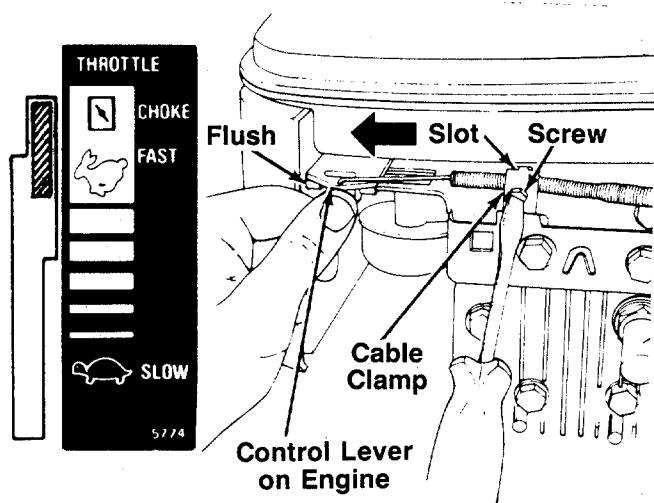

FIGURE 6D.—Models 416R, 419R, 426R & 429R
1. Push the throttle control lever on the handle all the way forward to CHOKE position. See figure 6D.
2. The throttle control cable is attached to the upper handle. Route the throttle control cable under the lower handle and inside the handle mounting bracket. Hook the "Z" end of the throttle control cable into the hole in the control lever on the engine. See figure 6D.
3. Using a 5/16" wrench or nutdriver, remove the screw on the cable clamp shown in figure 6D. Slip the control cable under the clamp. Replace the screw (cable should be above the screw), but do not tighten (cable must still move freely beneath the clamp). Make certain the tab on the cable clamp is seated into the slot on the engine.
4. Push the control lever on the engine as far toward the **outside** of the engine as it will go. The edge of the control lever should be flush with the bracket on the engine. See figure 6D. Hold the control lever in this position as you tighten the screw on the cable clamp to secure the throttle cable.